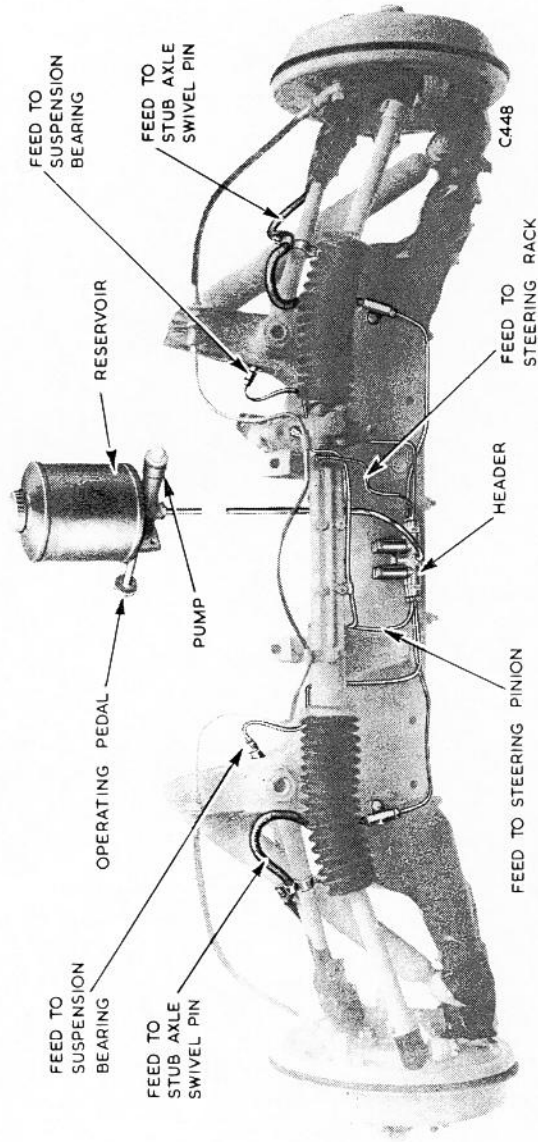

Fig. 1 "One shot" lubrication system.
The header consists of a bronze body containing six spring-loaded double-acting valves, each leading to an outlet and to one of six cylindrical air chambers screwed to the top of the body. The delivery pipes from the header are shown in Fig.1.
Referring to Fig.1, disconnect the pipe from the steering box pinion housing, the front of the steering box, the top pin of each stub axle swivel pin, and the suspension bracket bearings. Operate the pedal until free-air oil emerges at these points then, while the pedal is being slowly depressed, connect up the pipes.
Drain the tank by removing the union nut of the pipe connection on the underside of the pump body, catching the oil in a clean container. Unscrew and remove the four $\frac{1}{4}$ B.S.F. bolts and nuts securing the pump assembly to the bulk-head and withdraw the assembly. To refit the assembly, reverse the above procedure, then loosen the supply pipe connection at the header on the front cross member, see Fig. 1, and operate the system until air-free oil emerges from the pipe connection; tighten the pipe connection.
5. Refit the pedal head and bleed the system at the supply pipe to the header on the front cross member, see Fig. 1.
Fit the replacement leather pump washer and re-assemble, reversing the above procedure; bleed the system at the supply pipe connection to the header, see Fig. 1.